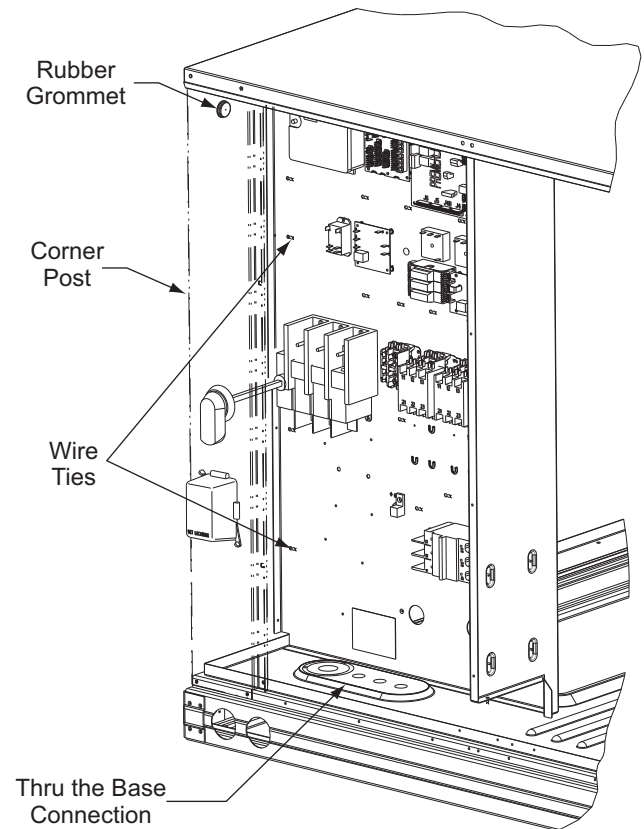

Fig. 28 — Field Control Wiring Raceway
UNIT WITHOUT THRU-BASE CONNECTION KIT — Correctly rated low voltage wire can be routed through the rubber grommet located on the corner post adjacent to the control box access panel. Route wire through the grommet and then route the wire behind the corner post utilizing the factory provided wire ties secured to the control box. This will ensure separation of the field low voltage wire and the high voltage circuit. Route the low voltage wire to the central terminal board. See Fig. 28.
2. Feed wires through the raceway built into the corner post (see Fig. 28) to the 24-v barrier located on the left side of the control box. The raceway provides the UL-required clearance between high-voltage and low-voltage wiring.